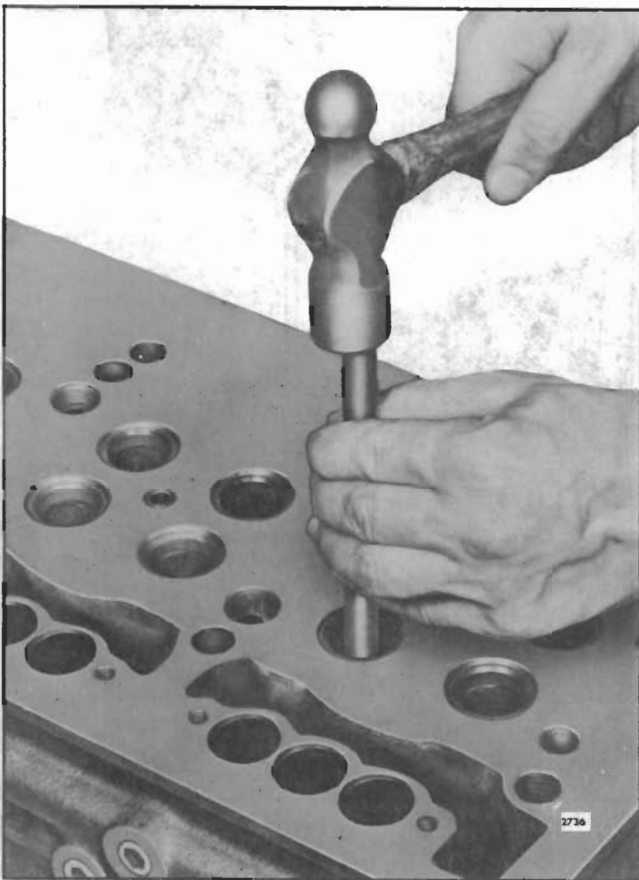

Fig. 6 - Removing Exhaust Valve Guide
3. Drive the valve guide out of the cylinder head with tool J 6569 (Fig. 6).